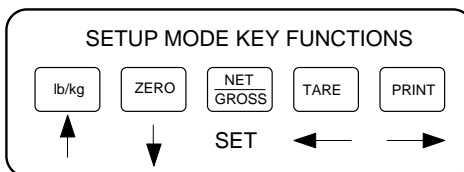

Figure 6-1: Setup Menu Key Assignments
3. Use the four directional keys (shown in Figure 6-1 below) to adjust the displayed value to the actual test weight value. Increase the flashing digit by pressing the lb/kg key. Decrease the flashing digit by pressing the ZERO key. Pressing the TARE key or the PRINT key will change the position of the flashing digit.
2. The display will momentarily show "CAL 0", followed by a flashing zero. Use the four directional keys (shown in Figure 6-1) to adjust the displayed value to the zero calibration value.
2. The display will momentarily show "**CAL 1**", followed by a flashing zero. Use the four directional keys (shown in Figure 6-1) to adjust the displayed value to the span calibration value.